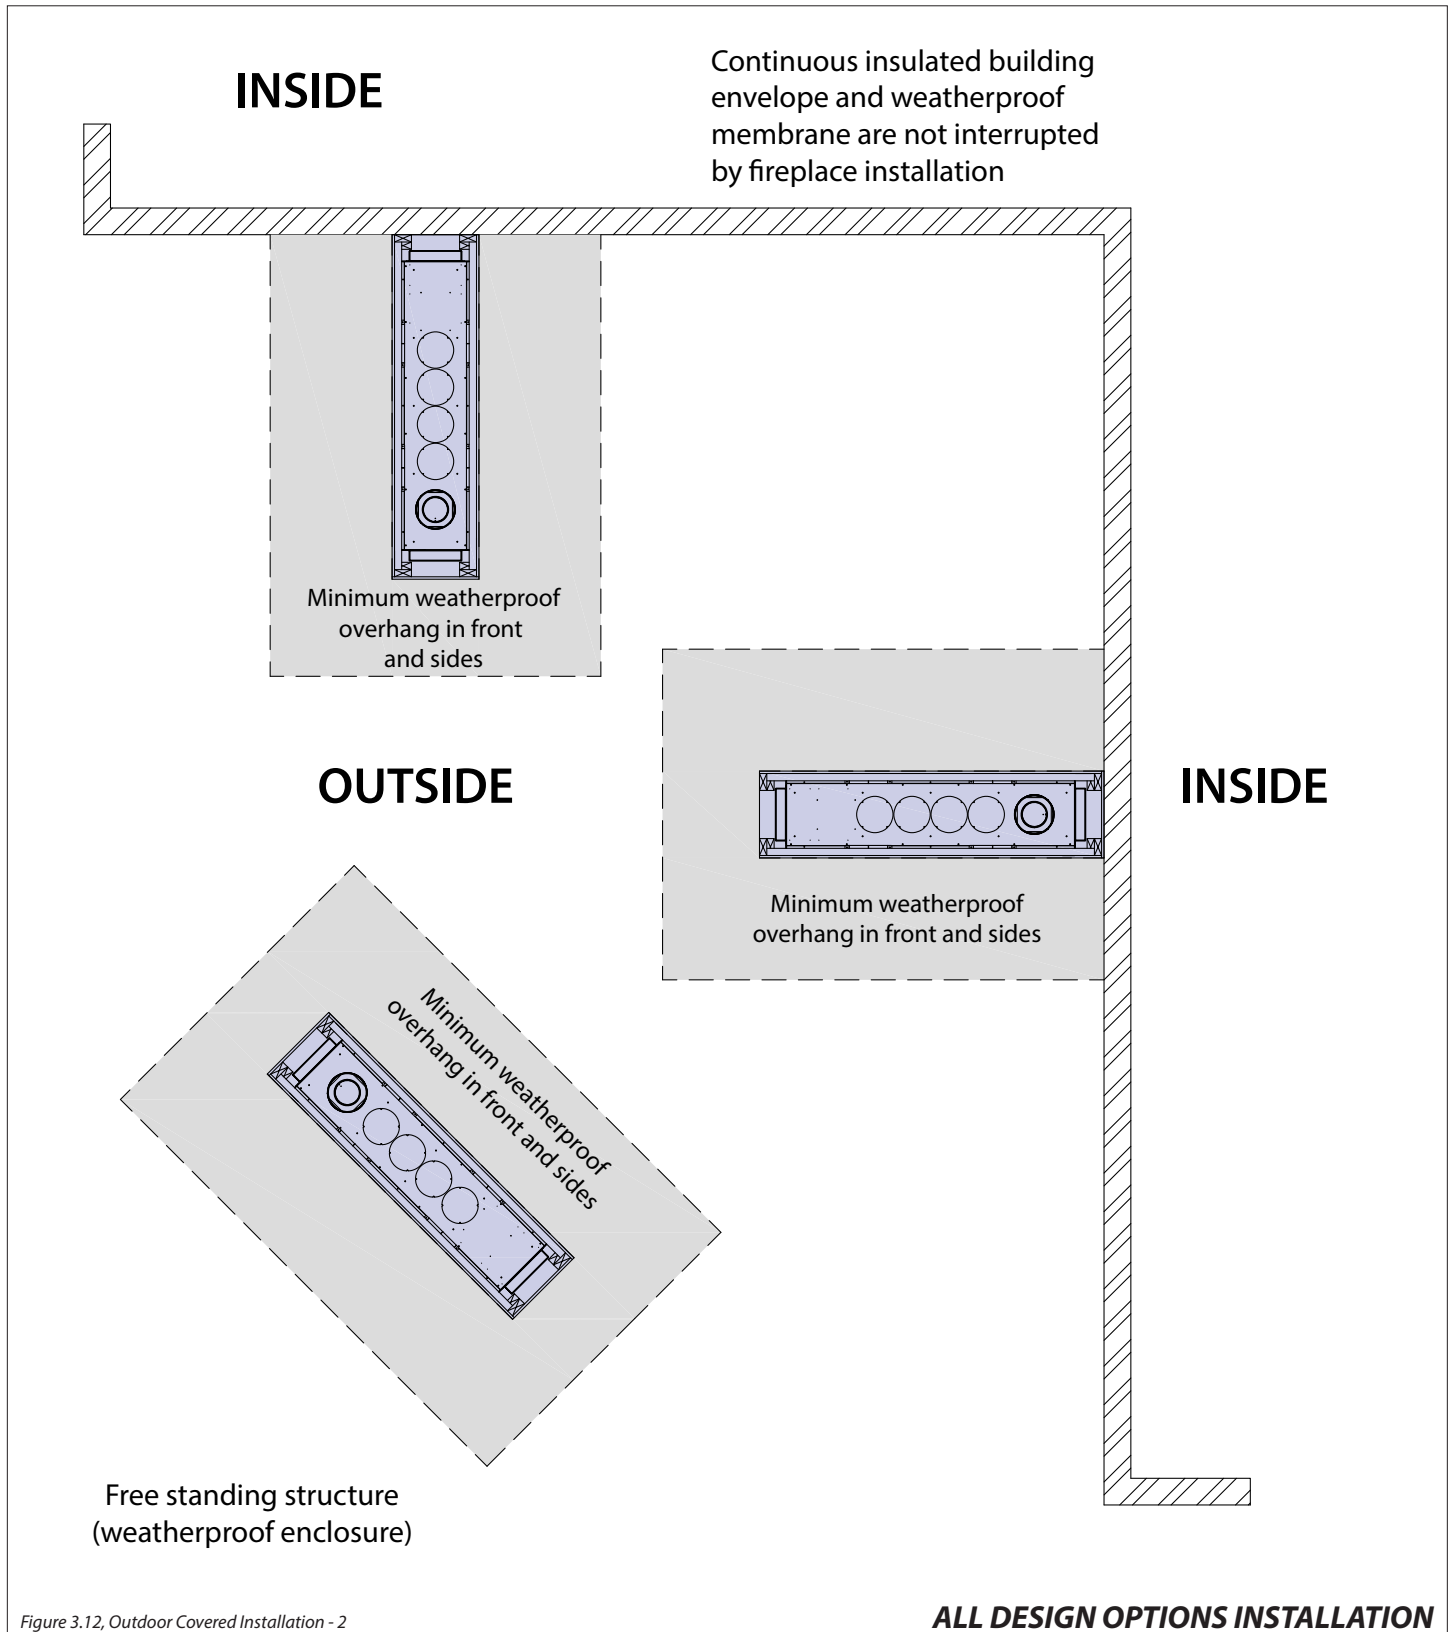

Figure 3.12, Outdoor Covered Installation - 2
- The continuous insulated building envelope and weatherproof membrane are not to be interrupted by fireplace installation. See Figure 3.12 on the following page.